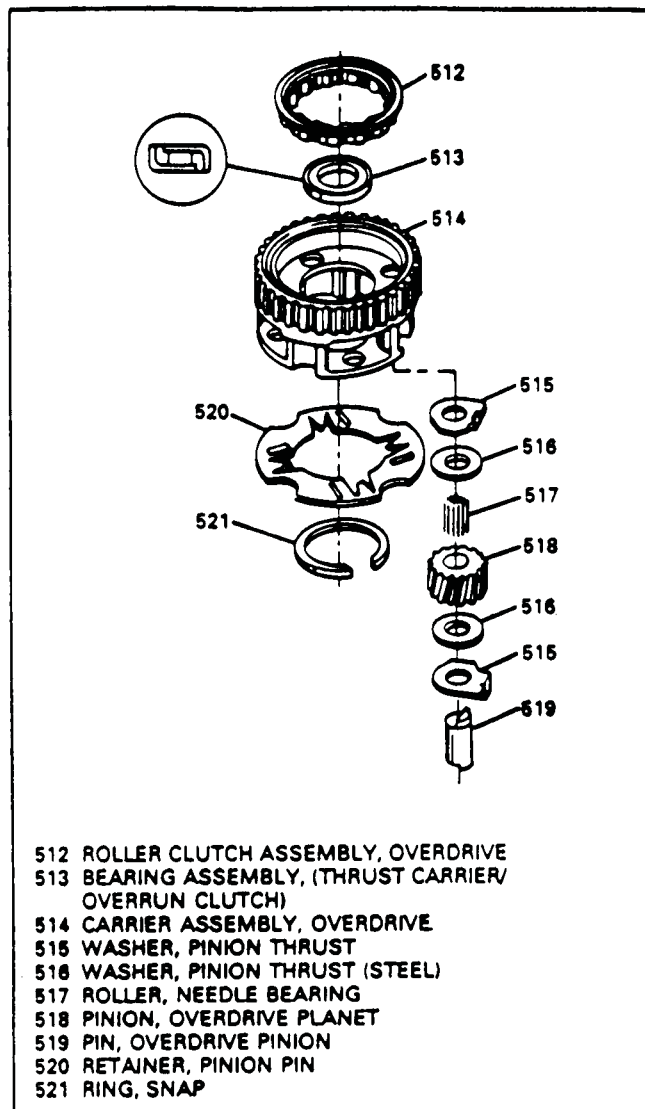

Figure 99
4. If disassembly is necessary use Figure 99 as a guide for disassembly.
5. Remove snap ring (521) and pinion pin retainer (520) (See Figure 99).
7. Remove 4 pinion pins from carrier, all pinions, thrust washers, and needle bearings (See Figure 99).